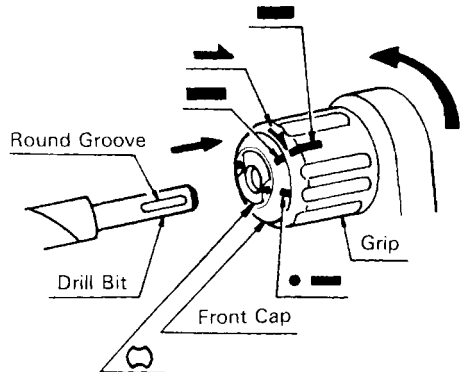

Fig. 2
5. Mounting the drill bit (Fig. 2)